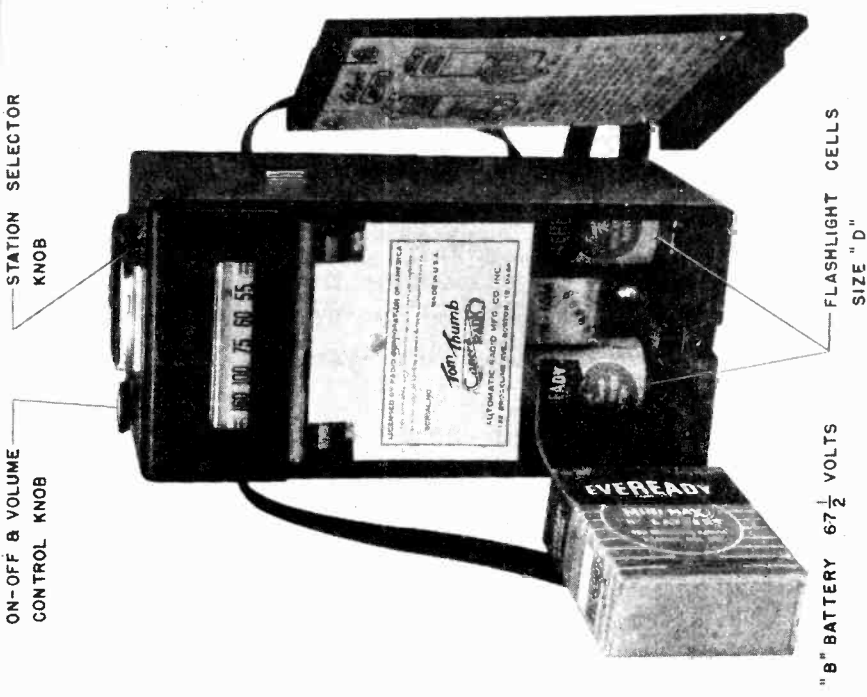

FIG. 2
BATTERY INSTALLATION (See Figure 2)
3. Insert flashlight cells on each side of speaker frame as indicated in Figure 2.
5. Place "B" battery over flashlight cells (See Fig. 2).